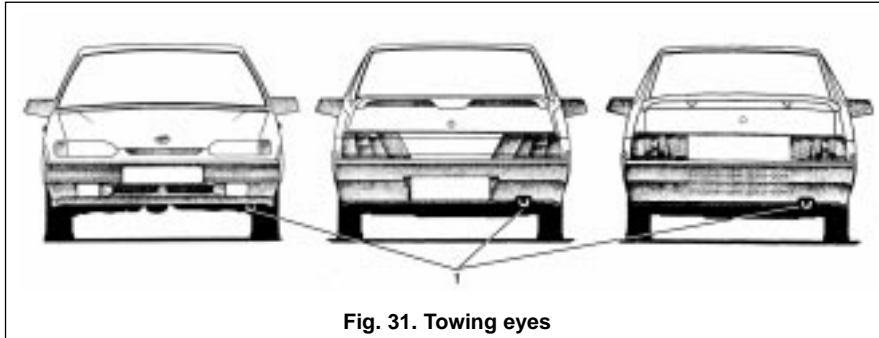

Fig. 31. Towing eyes
For towing your vehicle attach the tow-rope only to the front or rear towing eyes (1) (Fig. 31) provided. On the towed vehicle turn the ignition key to position «I» and switch on the hazard warning flashers (in dark hours also switch on side-markers, or attach a breakdown reflecting triangle if inoperative), as required by Traffic Regulations.